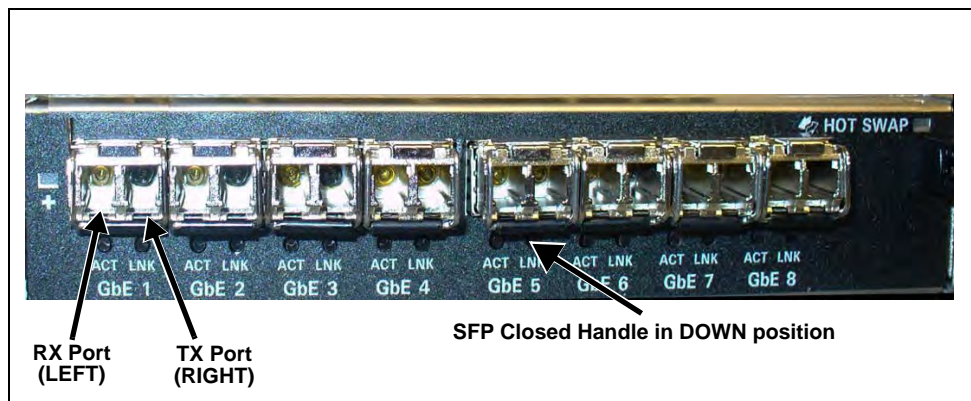

Figure B.4 - IIC100 SFPs
Insert 1 Gb SFPs into the IIC100 with the closed handle in DOWN position (**Figure B.4**). For the 1G SFPs, the left port is Receive (RX) and the right port is Transmit (TX).